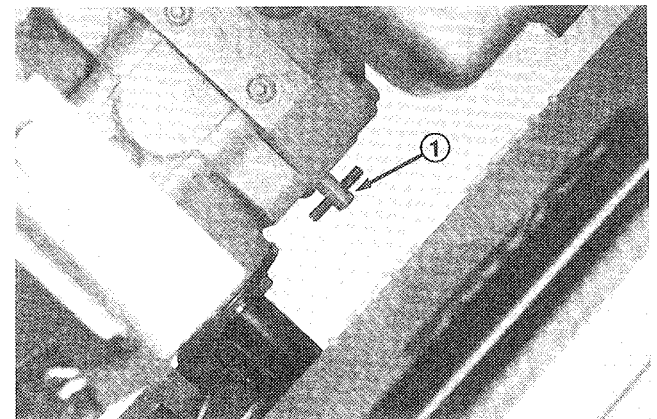

Figure 10
1. Reach in and rotate by-pass valve on transmission (Fig. 10) counterclockwise 1/2 to 1 turn. Opening the valve opens an internal passage in the pump, thereby bypassing transmission oil. Because fluid is by-passed, the machine can be pushed without damaging the transmission.